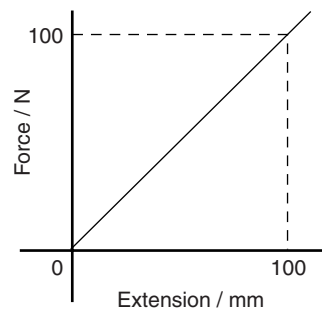

Figure 14.11
8. A force/extension graph for a spring is shown in Figure 14.11